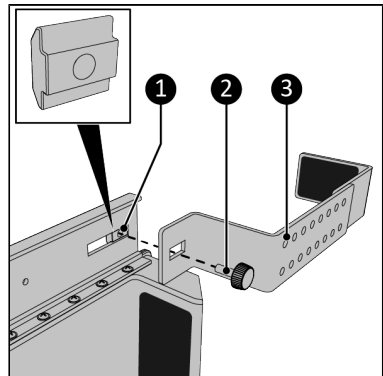

Figure 71.
- Screw the bracket (Figure 71, pos. 3) to the main rail in the front position using the knob screw (Figure 71, pos. 2). Make sure you connect the knob screw to the slide nut (Figure 71, pos. 1).